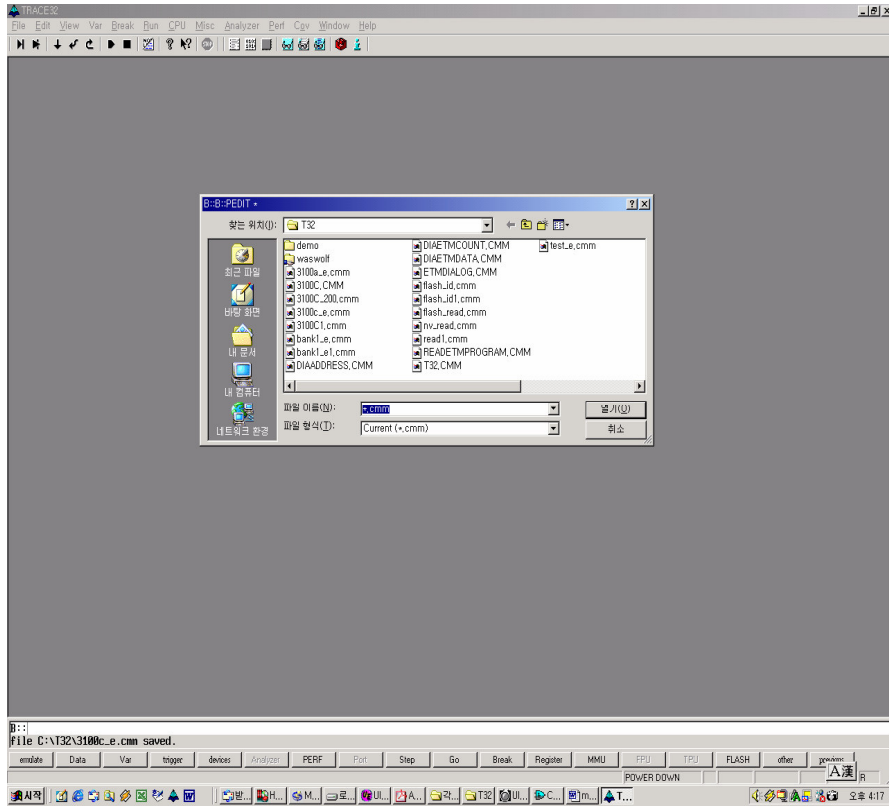

Figure 5.6
-Find and click the proper file ( \*.cmm) shown on the window of Fig 5.6.